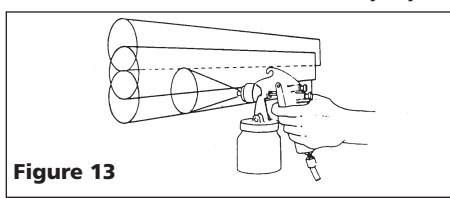

Figure 13
4. Overlap strokes just enough to obtain an even coat (See Figure 13).